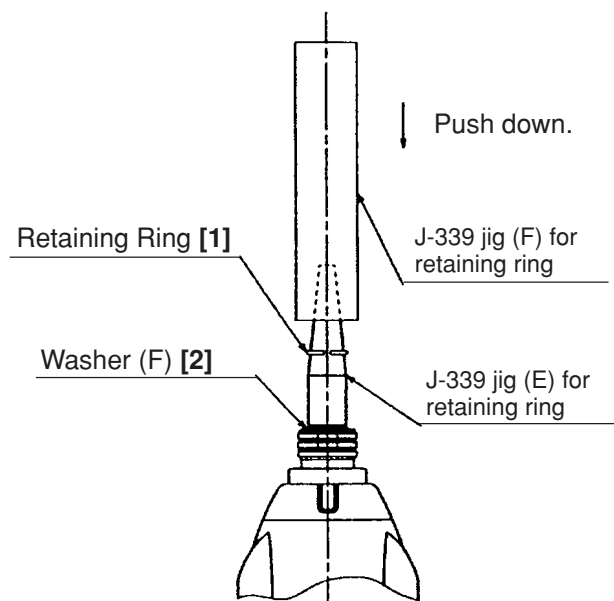

Fig. 12
(6) Mounting Guide Sleeve (C) [4] (Model WH 9DM2 only)
Insert the two Steel Balls D 3.175 [9] into the hole of Anvil (T) [10]. Mount Guide Sleeve (C) [4], Guide Spring (C) [3] and Washer (F) [2] in sequence. Mount the Retaining Ring [1] into the groove of anvil using the J339 jigs (E) and (F) for retaining ring as illustrated in Fig. 12.